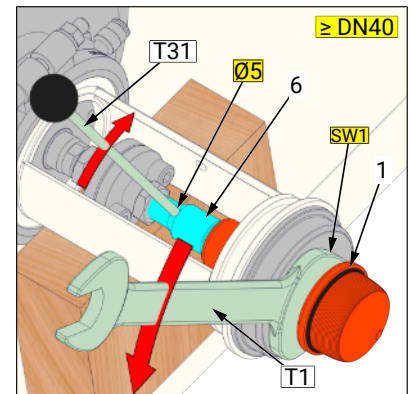

Figure 4
- Fig. 4 Dismounting via spanner flat (SW1) (\geq DN40).
- So that the bore (B1) will be visible, first unscrew the insert (2).
- Unscrew the piston (1) respectively the flow cone (Sk_m) from the spindle (6) with a pin wrench (T10).
- Use a round rod (T31) to hold up against the spindle (6) via the bore (Ø5).